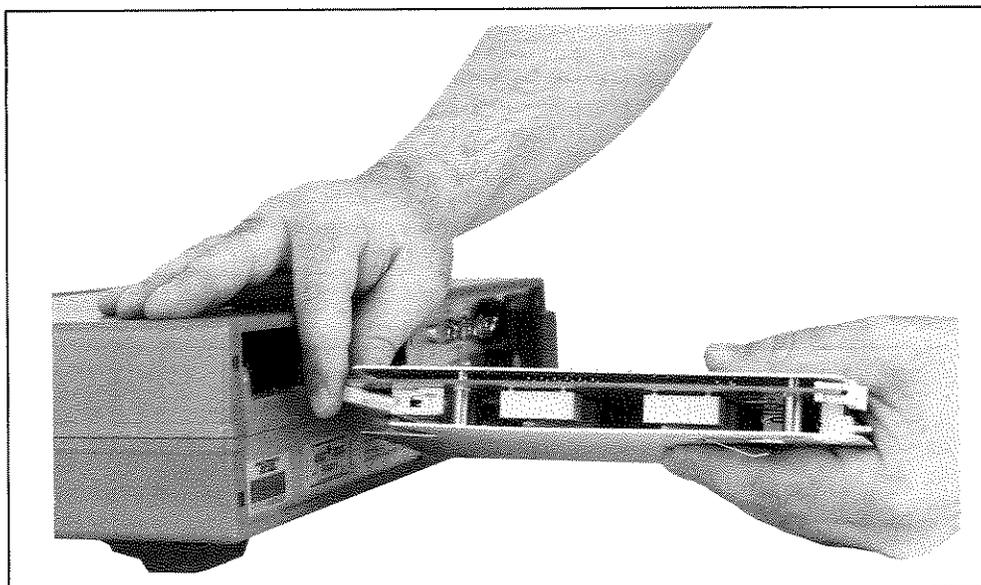

Figure 5-2. Connecting the Wiring Harness
6. Connect the wiring harness connector to the plug-in card connector as shown in Figure 5-2.